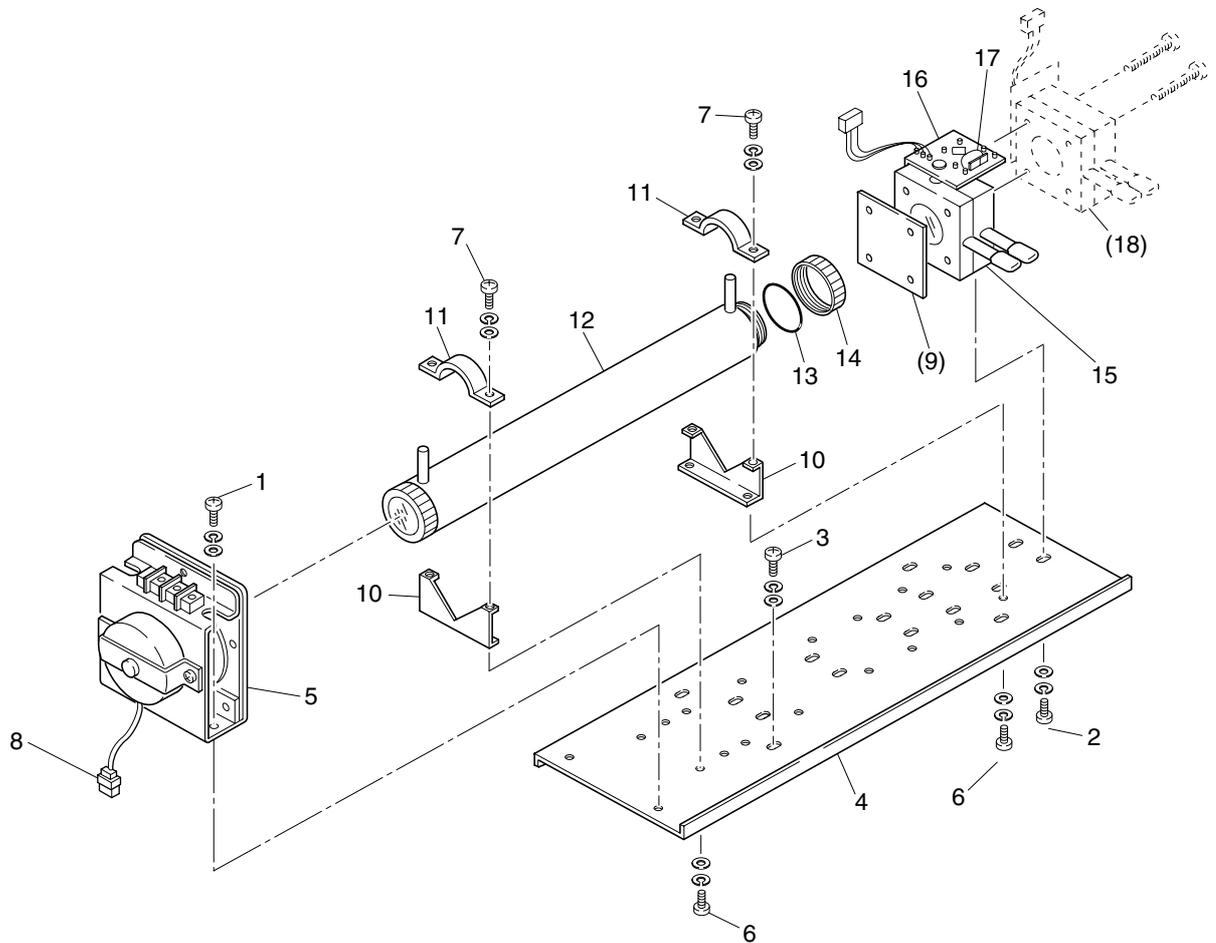

Fig. 7-1 Configuration of measuring unit (pipe cell)
2-component analyzer may incorporate both measuring cells in optical unit. In such a case, detach the pipe cell and then block cell (See Fig. 7-1).
(1) How to remove pipe cell (See Fig. 7-1)